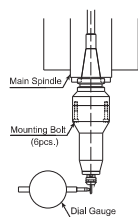

Fig. 27
- To adjust the HES centerline, mount the HES Brushless Motor Spindle in the machining center's quill and use a dial gauge on a test pin. Loosen the six bolts that hold the taper housing together, slightly and tap out the X-Y eccentricity. Rotate the machining center's spindle by hand to Main Spindle verify concentricity. (Fig. 27)